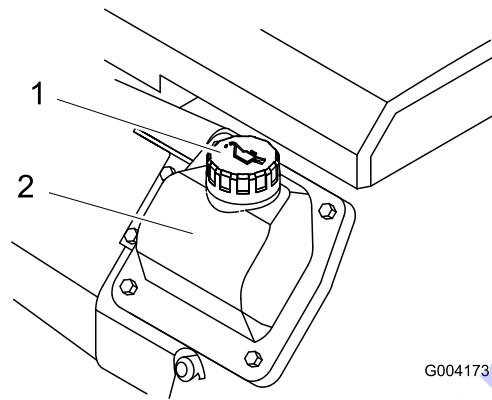

Figure 36
8. If the oil level is low, clean around the oil-fill cap and remove the cap (Figure 36).
6. Remove the fill cap (Figure 36) and slowly pour approximately 80% of the specified amount of oil in through the valve cover.
9. Remove the fill cap (Figure 36) and slowly pour approximately 80% of the specified amount of oil in through the valve cover.